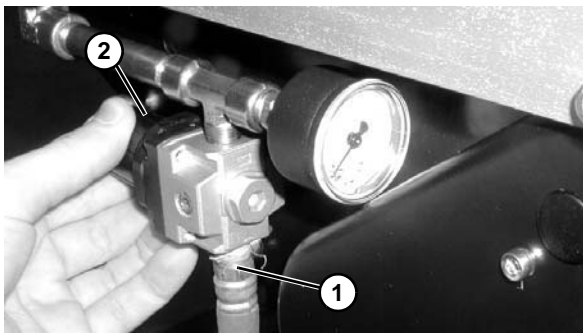

Figure 64
- Connect air supply (**Figure 64, item 1**) to regulator (**Figure 64, item 2**).
- Adjust regulator (**Figure 64, item 2**) until gage reads the appropriate pressure. Adjust regulator starting at 15 psi sufficiently to keep belt from slipping up to the maximum shown in the following table.